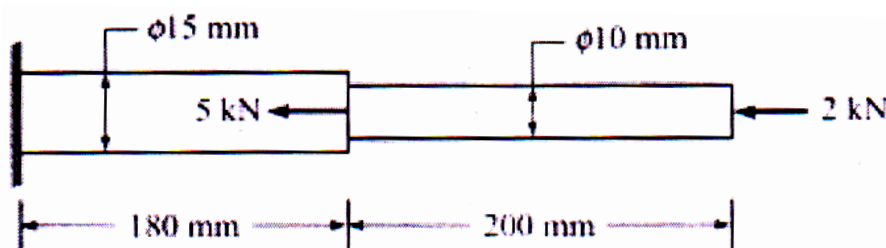

Figure 1 **Stepped bar.**
- b) For a stepped bar subjected to an axial compressive loads as shown in Figure 1, find stresses in each bar. Assume young's modulus of material of bar as 200GPa. [12]